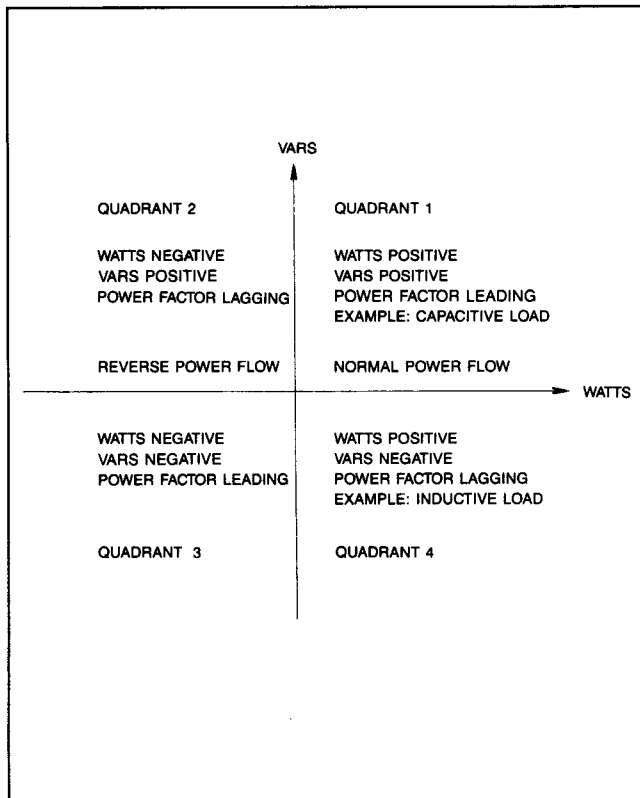

Figure 3.2 Power Quadrants
3.2.1.1 Blinking LEDs: Watts, Vars and/or Power Factor — To display reverse power flow, lagging (negative) power factor, and negative var, the menu select LED being viewed will blink. If it is not blinking the values are positive (leading). Refer to Figures 3.2, 3.3, 3.4 for a further explanation.